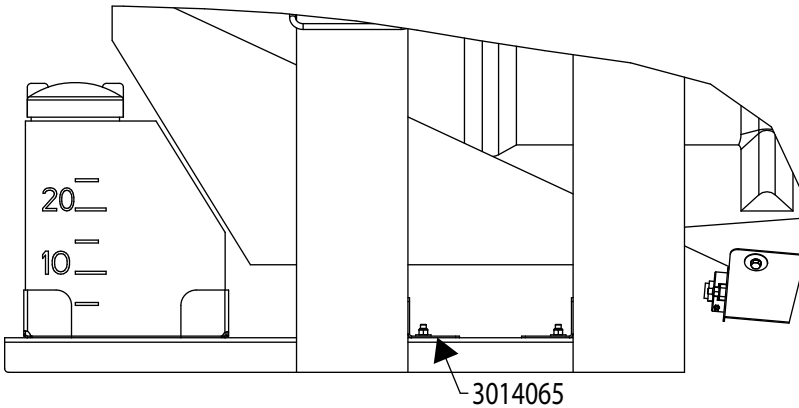

Fig. 3
3. Secure spreader on support using stops (3014065) and provided hardware as shown in Fig.3.